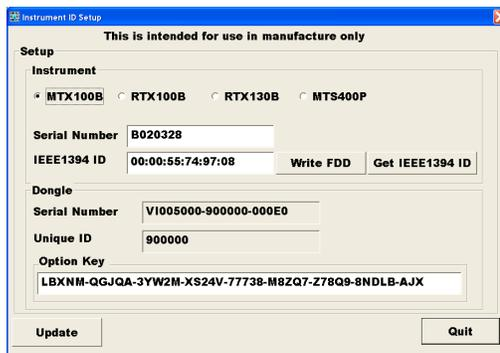

Figure 3-12: Instrument ID Setup dialog
5. Select the Instrument type in the Instrument ID Setup dialog box, as shown below. (See Figure 3-12.)